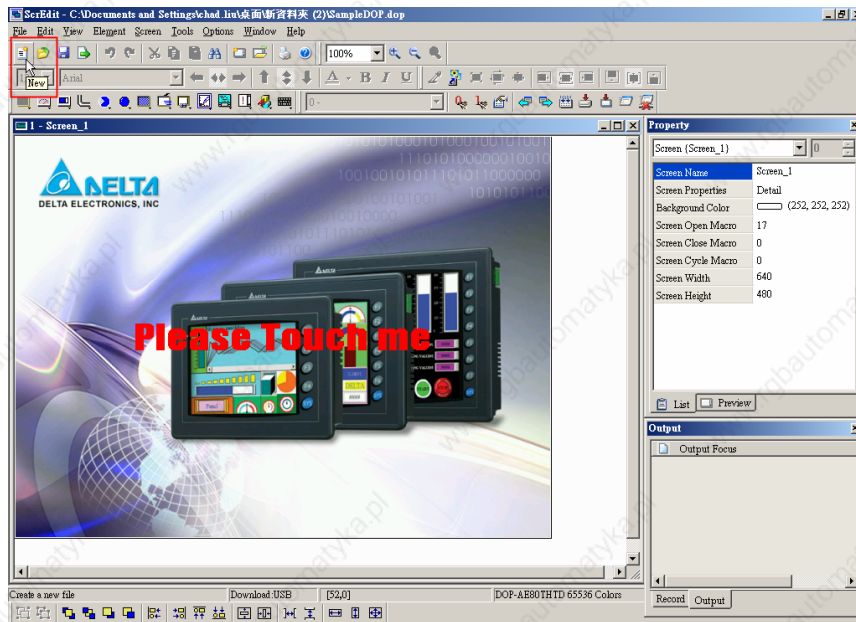

Fig. 2.3.3 Create new application (Choosing New icon from toolbar)
2.3.2) or clicking the New icon from toolbar (Fig. 2.3.3), or using keyboard shortcuts by pressing **Ctrl + N**.